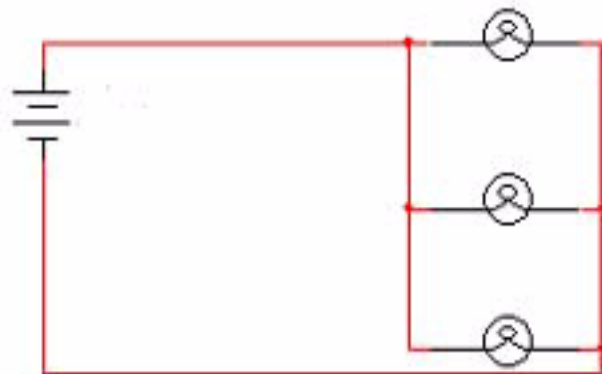

Figure 2.5
- Parallel circuits are wired so that current has multiple paths to follow. See Figure 2.5.